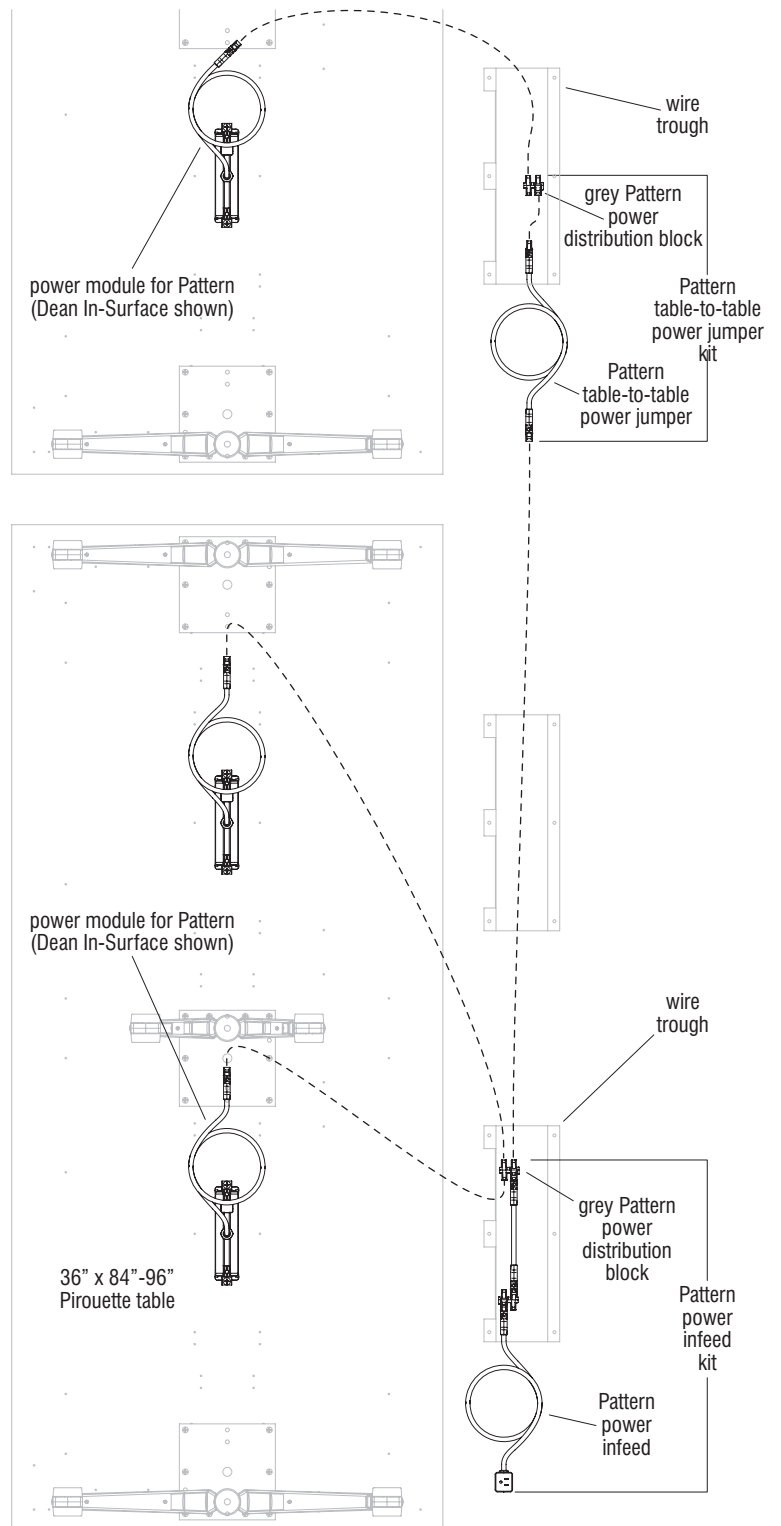

Figure 6
1. Take a Pattern table-to-table power jumper in hand and plug the jumper's male connector end into a grey Pattern power distribution block as shown in Detail F on page 17 and Figure 6 this page. Orient the table-to-table power jumper's female connector end out of the trough and toward the previous table, in the direction of the table with the Pattern table-to-table power jumper kit (Figure 6 & page 17, Detail F).
2. Step 1 above assembles the Pattern table-to-table power jumper kit (Figure 6). Repeat step 1 to assemble table-to-table kits in the remaining wire troughs.